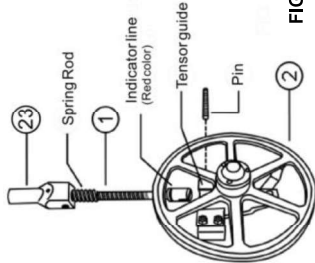

FIG. 7 Assembly of upper wheel and tension guide
4.-The upper wheel (2) is assembled to the tension gauge assy. (Fig.7). Disassemble the tension guide assy by removing the tension gauge pin with your hands. This will let you to take out the tension gauge housing (23), tension gauge spring, the rod an indicator (1), and the upper wheel hanger (24). Clean these parts using a soft brush and a mild detergent, rinse with water.